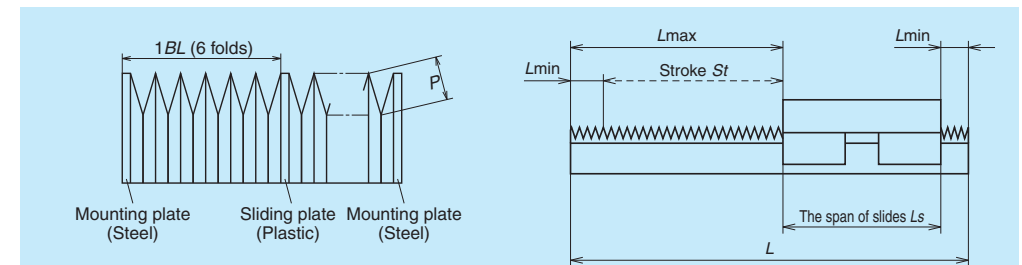

Fig. 7.10
- Bellows fastener is available only for horizontal mounting positions. For other mounting positions, sliding plate is required (see **Fig. 7.10** on page A70.)
- A bellows forms one block (BL) with six folds as shown in **Fig. 7.10**. The stroke is determined by multiplying by an integer of this BL.